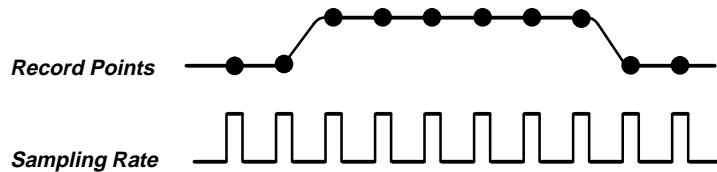

Figure 2-6: Real-Time Sampling
Sampling is the process of converting the analog input signal to digital data for display and processing (see Figure 2-6). The two general methods of sampling are *real-time* and *equivalent-time*.
**Real-Time Sampling** — In real-time sampling, the oscilloscope digitizes all the points it acquires after one trigger event (see Figure 2-6). Use real-time sampling to capture single-shot or transient events.